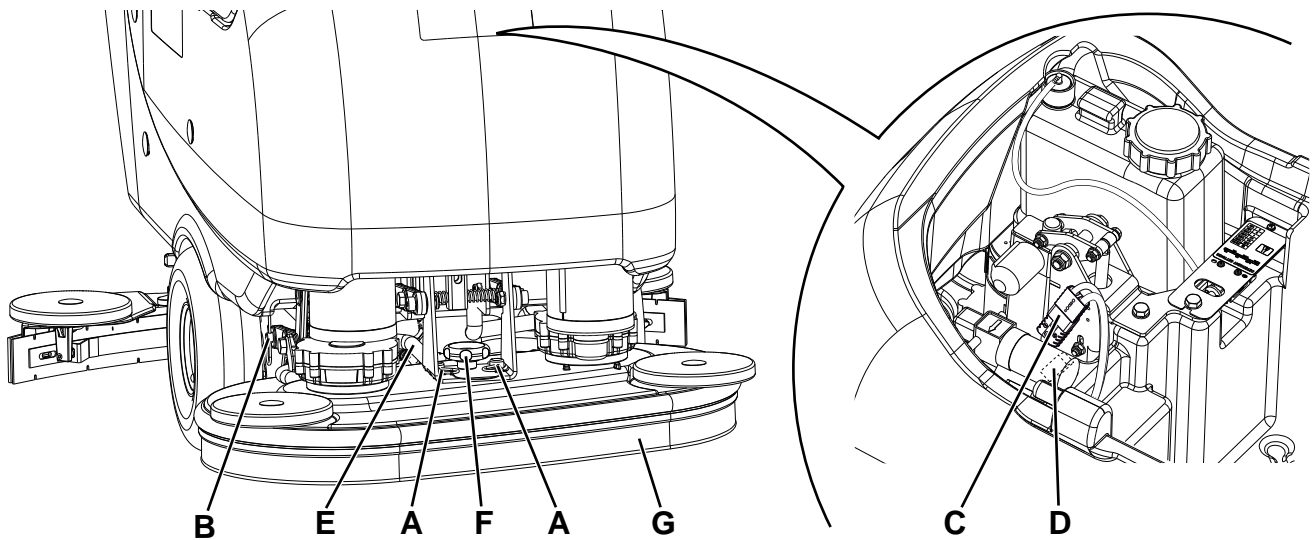

Figure 7
3. Turn the ignition key (80) to "I".
4. Lower the brush/pad-holder deck by pressing the switch (71).
5. Turn the ignition key (80) to "0".
6. Remove the safety pins (A, Fig. 7) and [for brush/pad-holder deck (18) only] the mounting pin (B).
7. Open the cover (22) and check that the recovery tank (21) is empty, otherwise empty it with the drain hose (16). Close the cover (22).
8. Grasp the handle (41) and carefully lift the tank (40) to reach the deck electrical connection.
9. Disconnect the red connector (C) and (for cylindrical brush deck only) the white connector (D).
10. Disconnect the solution hose union (E).
11. Unscrew the mounting handwheel (F), then remove the brush/pad-holder deck (G).